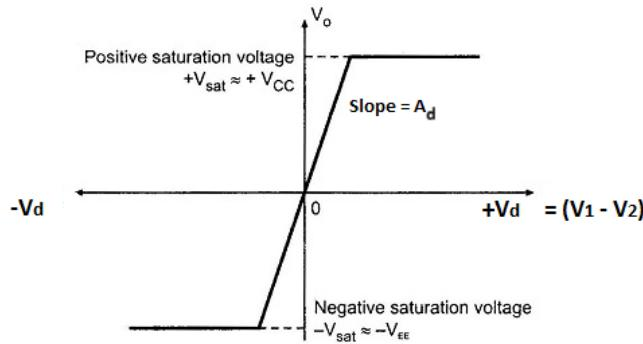

Figure 3.6: Transfer characteristics
- A graph of  $V_o$  versus  $V_d$  is plotted as shown in Figure 3.6 by keeping  $A_d$  as constant.
- Hence, the output voltage  $V_o$  is directly proportional to the difference input voltage  $V_d$  until it reaches the saturation voltages and later it remains constant as shown in the transfer characteristics of Op-Amp in Figure 3.6.